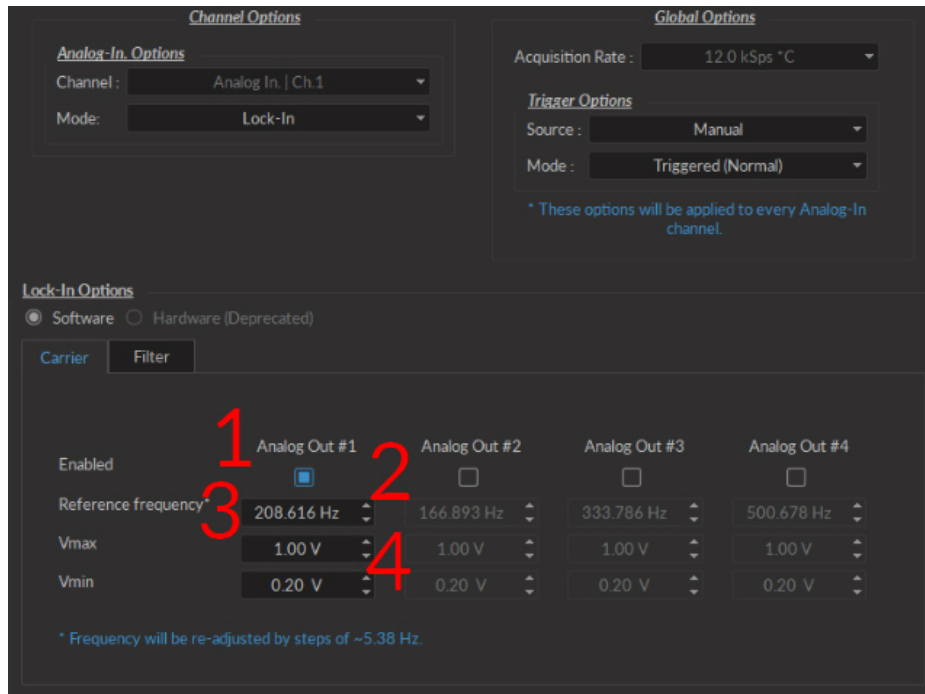

Figure 3.40: Channels configuration, Analog Input Lock-in Mode, Carrier Tab
The following section describes the usage of the **Lock-in** mode for **Analog Input** channels. Once the **Lock-in** channel mode is chosen, the **Lock-in options** box (Fig. 3.40) appears, containing the following parameters.
1. The **Channel List** (Fig. 3.40) indicates which channels are used to output a reference frequency. Multiple output channels can be selected for a single input channel. Any output channels already configured by a different input channel will be usable, but not configurable. The output configuration must be changed in the initial input channel.
3. The **Reference frequency** (Fig. 3.40) allows the choice of a reference frequency. The reference frequency should not be a multiple of a known noise frequency (e.g. 60 Hz), or a multiple of another reference frequency.
4. The **Vmax/Vmin** (Fig. 3.40) defines the voltage sent from the console to the device. The minimum possible difference is of 0.1 V for the **LEDD**. The **Vmin** value is 0.1 V for the **LEDD** and 0.2 V for the **LEDRV**.